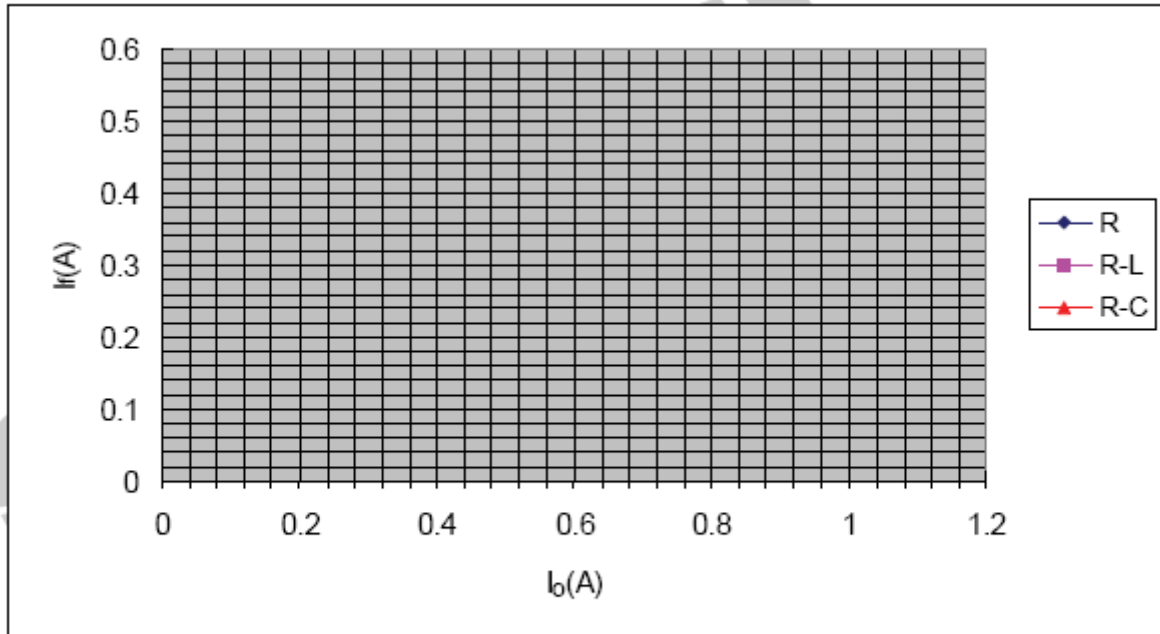

Fig. 15-5-3 The I_f vs I_o curves
13. Using the results of Tables 15-5-1 through 15-5-3, plot the I_f vs I_o curves on the graph of Fig. 15-5-3.